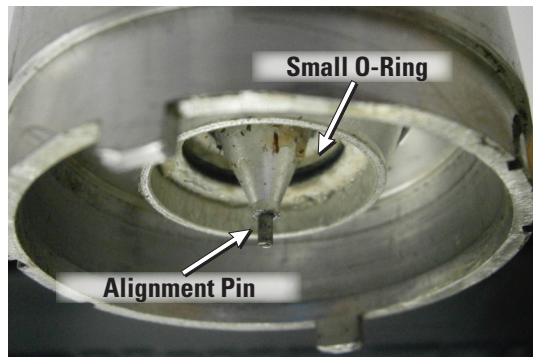

Figure 3: Check for Alignment Pin
- c. Use the small O-ring provided in the repair kit to replace the inner O-ring on the whip side of the breakaway. Use a plastic pick provided in the kit to remove the old O-ring. See **Figure 3**.